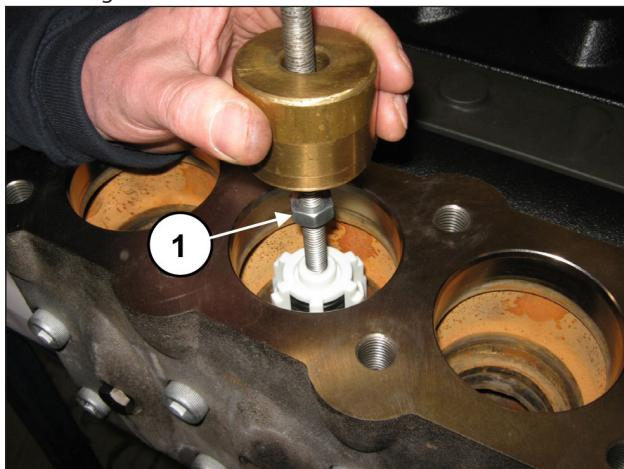

Fig. 100
Extract the outlet valve unit with the use of an extractor hammer (code 27516400) to be applied on the M10 hole of the valve guide (pos. ①, Fig. 100) or, in addition, an M10-M16 adapter (code 25089700) to be attached to the M16 thread of the valve guide.